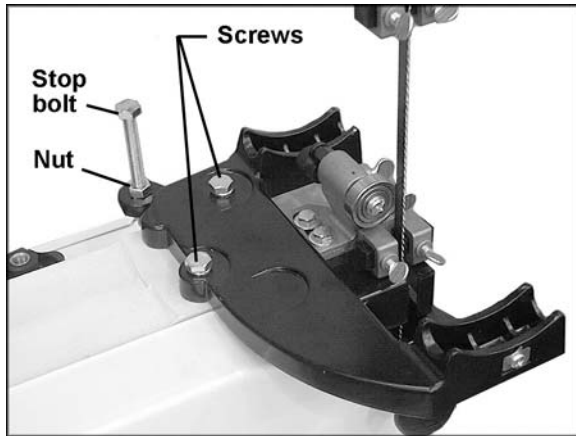

Figure 18
M8 lock washers, as shown in item D, page 8. See Figure 18.
12. Thread nut onto table stop bolt (Figure 18) and attach to trunnion support bracket as shown.